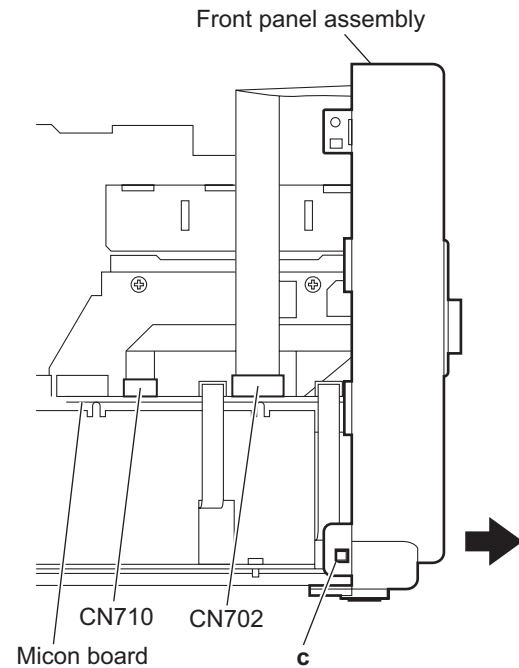

Fig.6
3.1.4 Removing the front panel assembly (See Figs.6 to 8)
- Remove the rear cover, side panels(L)/(R) and top cover assembly.
- (1) From the left side of the main body, disconnect the card wires from the connectors (CN702, CN710) on the micon board. (See Fig.6.)
- (2) From the right side of the main body, disconnect the earth wire from the micon board. (See Fig.6.)
- (3) From the both sides and bottom sides of the main body, release the joints **c** and joint **d**. (See Figs.6 to 8.)
- (4) Remove the front panel assembly in the direction of the arrow. (See Figs.6 to 8.)